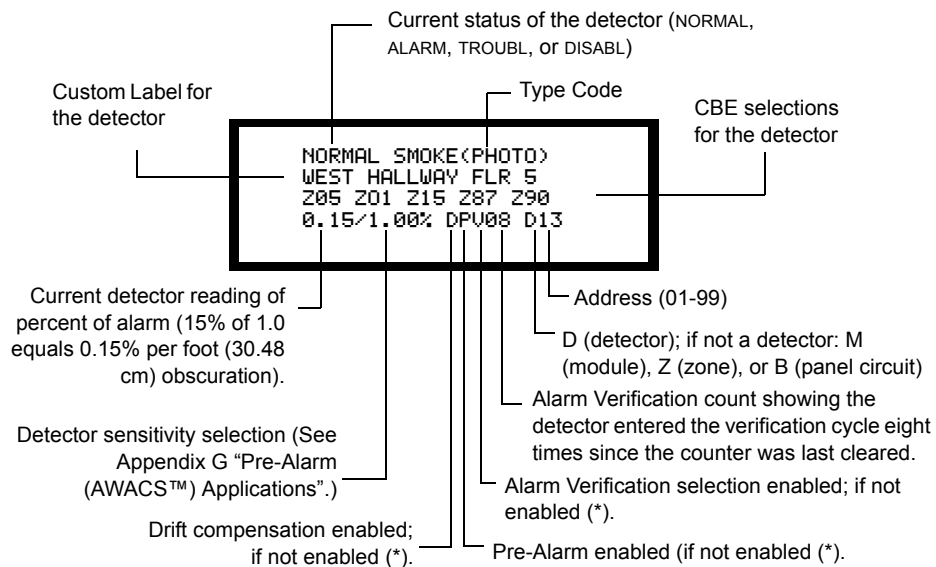
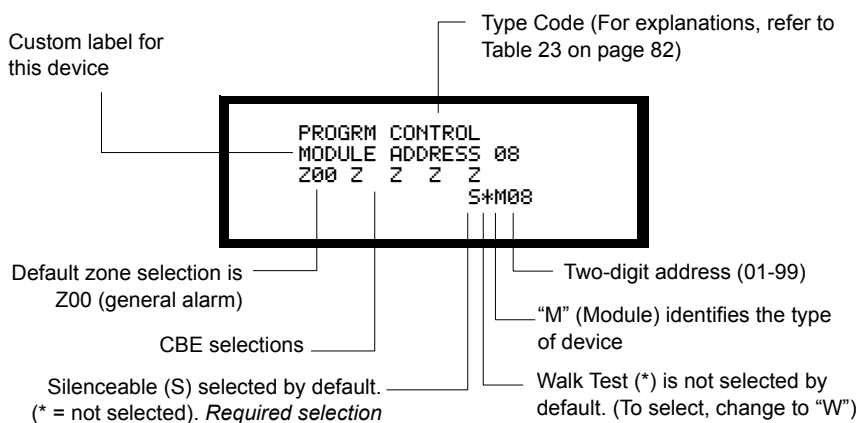

Figure 114 Detector Read Status Sample Screen
Figure 115 Module Read Status Sample Screen
Figure 114 shows an example of read point for a detector and Figure 115 shows an example of read point for a module.
■ **Detector Example** For example, to read the status of a photoelectric detector at address 13: press *, enter the address (13), then press the ENTER key. The control panel displays information about the detector as shown in Figure 114:
■ **Module Example** For example, to read the status of a monitor module at address 08: press #, enter the address (08), then press the ENTER key. The control panel displays information about the module as shown in Figure 115: